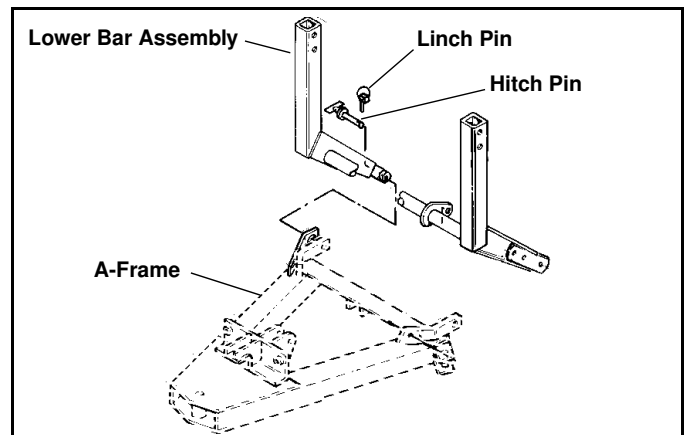
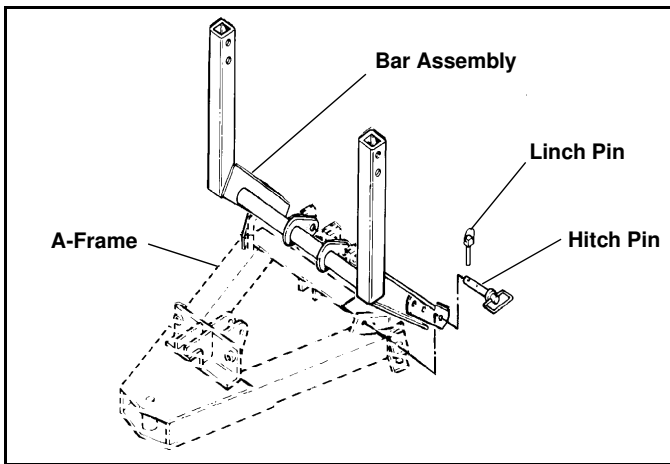

Figure 2
Figure 3
4. Mount Lower Bar Assembly to Main Plow Frame by sliding bosses on Pivot Bars into holes on A-Frame. Use long Hitch Pins (#96100015) to locate and secure. Reuse Linch Pins. (See Figure 2) (See Figure 3)